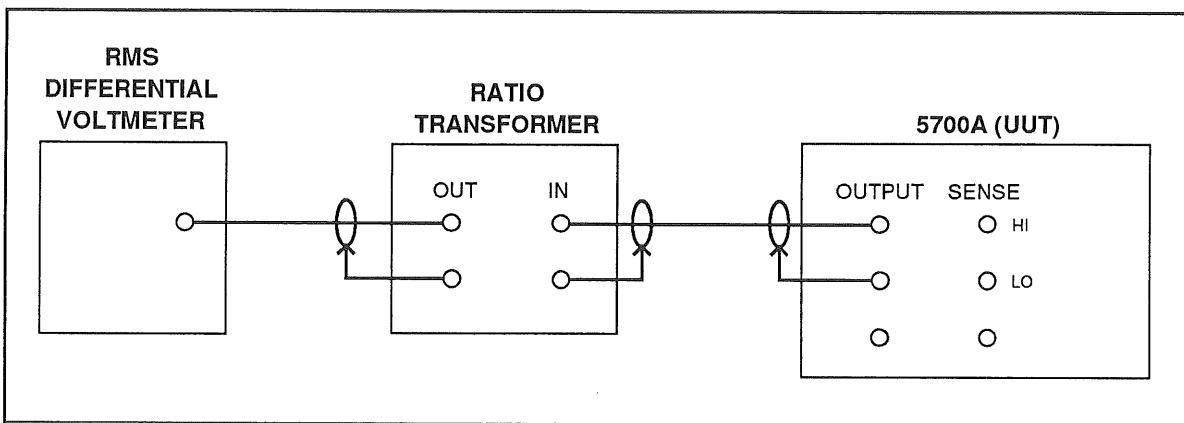

Figure 3-8. Absolute Level Verification at 1 kHz (200 mV and 20 mV)
1. Connect the equipment as shown in Figure 3-8.